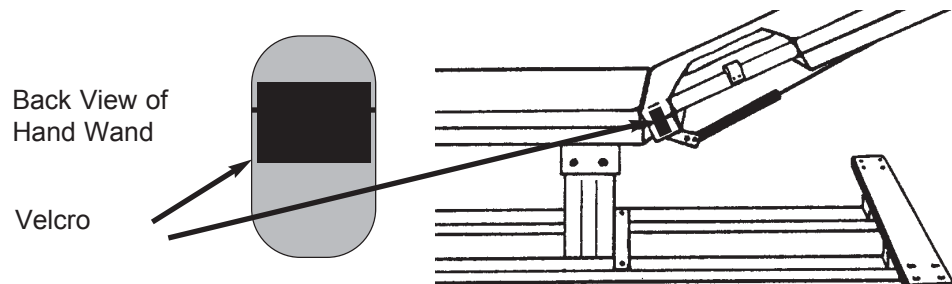

Figure 4
The hand wand attaches to the bed in one of the two (2) following ways: Beds without safety rails - The hand wand has a Velcro strip on the back and the bed has Velcro on the side. (See Figure 4)